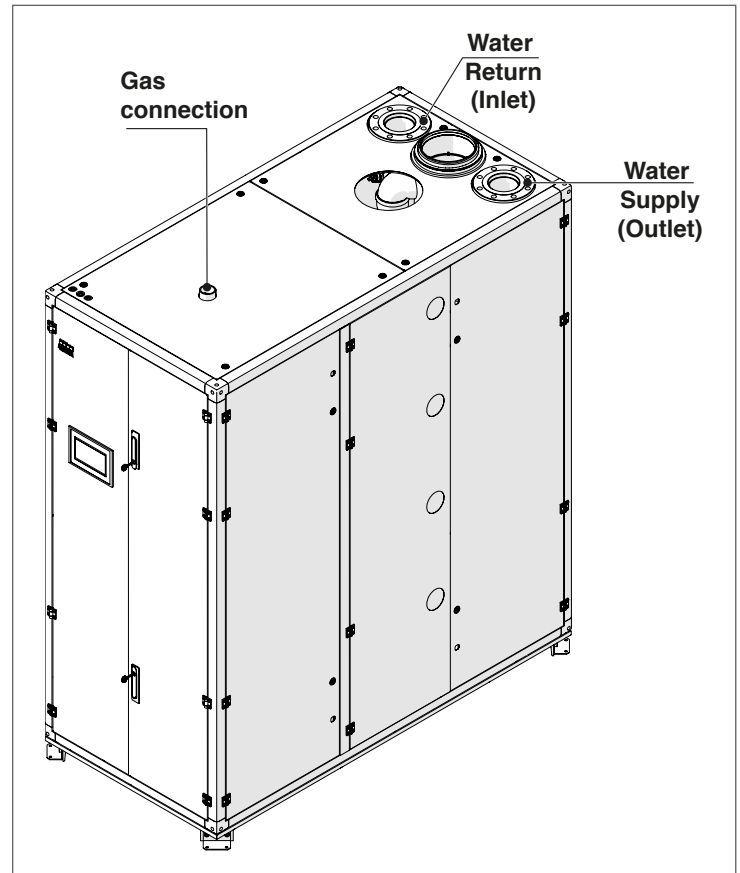

Fig. 9 Array AR 3000 and AR 4000 Connections
The **Array** Boiler utilizes 4" ANSI flanges, for both models **AR 3000** and **AR 4000**, for the water system supply and return piping connections. The physical location of the supply and return piping connections is on the top of the unit as shown in Fig. 9.
**Array AR 3000 and AR 4000** boilers contain a 2 inch NPT gas inlet connection on the top of the unit as shown in Fig. 9.